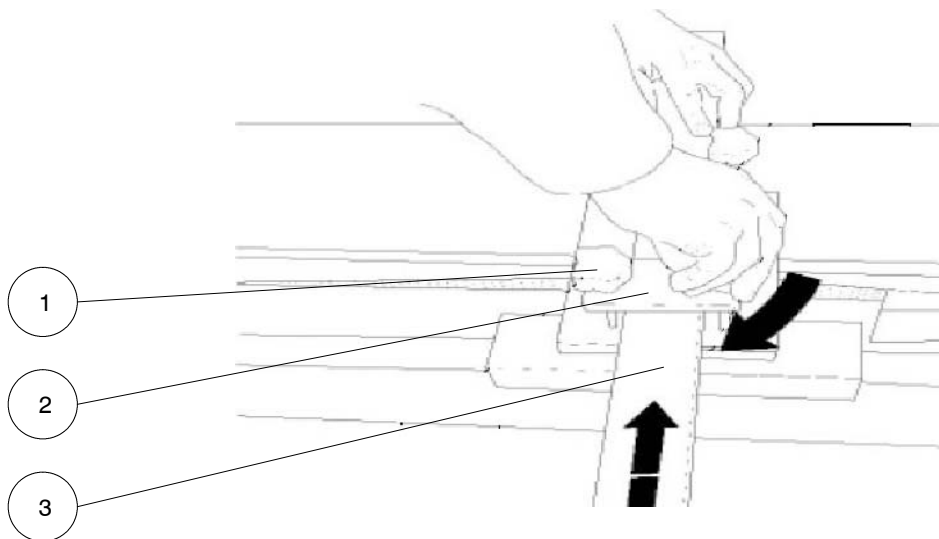

Fig. 3-4 Attaching gun arm clamps and gun support arm
8. See Figure 3-4. Bolt 2 gun arm clamps (1) to the external carriage plates (2), and insert the gun support arm (3). Tighten the gun arm clamps to fix the gun support arm in the desired position for spraying.